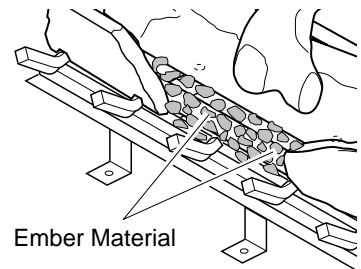

Figure 53 - Placing Ember Material on Burner
7. Pull ember material apart into pieces no larger than a dime. Place these pieces loosely and sparingly directly onto the exposed section of the front burner and along the space between the burner and grate prongs (see Figure 53). This will create the glowing ember appearance as the flame touches the ember material. Do not block air slots by using too much ember material in one area. It is not necessary to use all of the ember material provided.